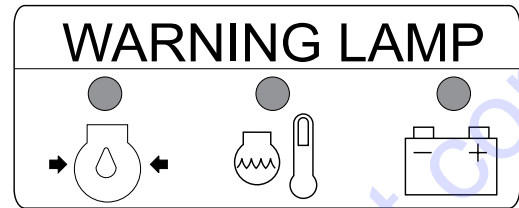

Figure 75. Engine Warning Lamps
- In addition, the battery charge, oil pressure and water temperature alarms will be displayed on the engine warning display (Figure 75).